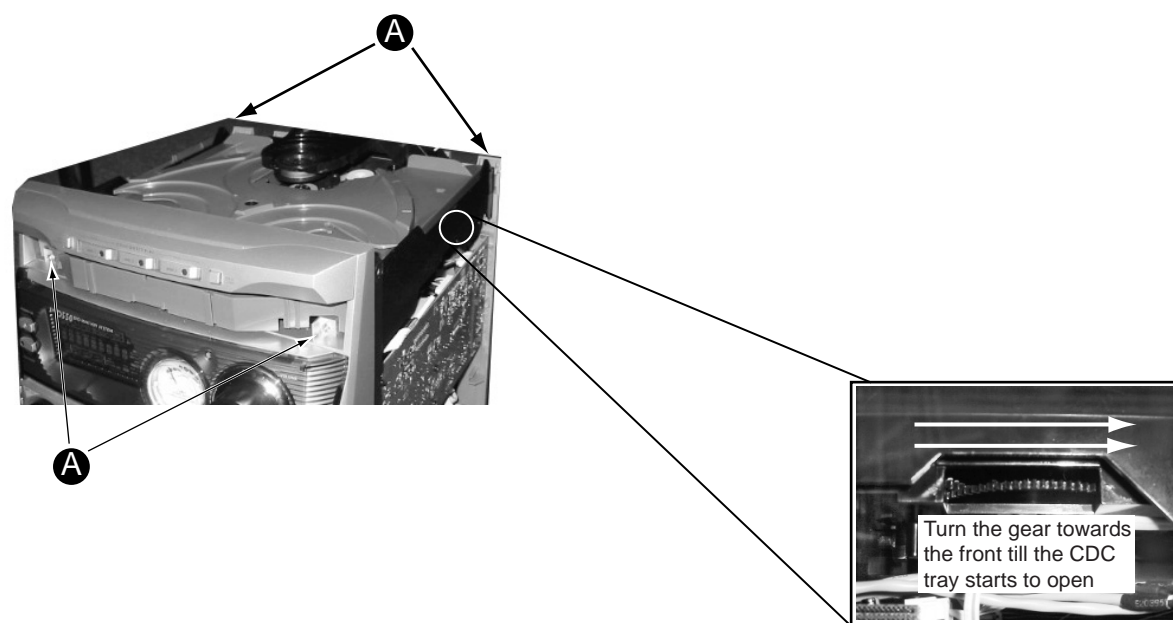

Figure 3
- 1) Loosen the 4 screws, slide Cover top (pos 255) towards the rear and remove it upwards.
- 2) Push the gear slowly towards the front as shown in figure 3 until the CDC tray starts to move out of the Front Cabinet. The CDC tray is now disengaged and can be pulled out completely.
- 5) Loosen 4 screws A to remove the CDC Module (pos 1105) as shown in figure 3.